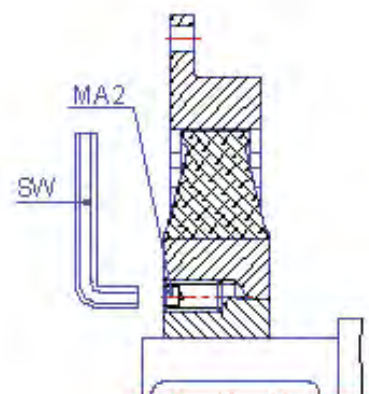

Fig. 4
1. Loosen and remove all screws. Depending on the taper bushing size, screw either 1 or 2 greased screws into the half pulling-off thread(s) of the taper bushing (fig. 4).